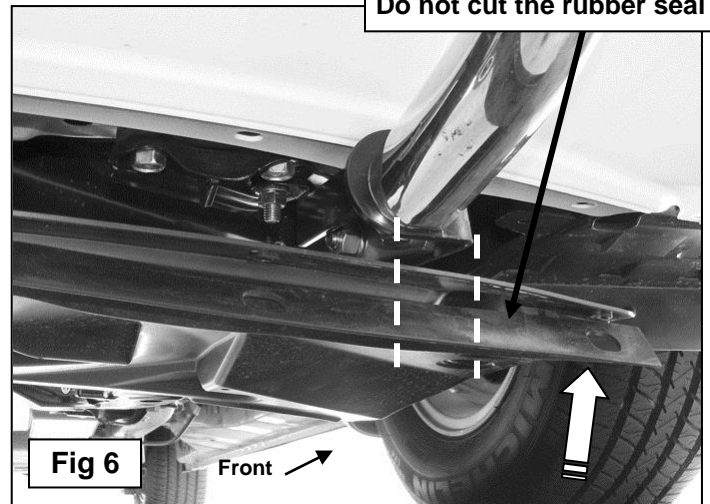
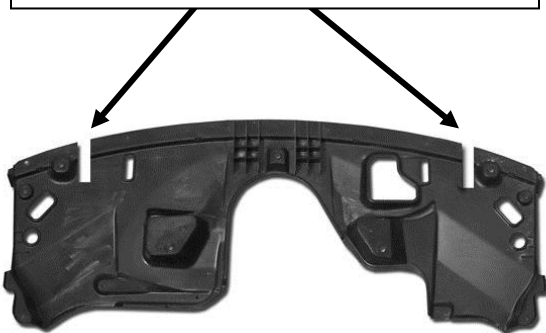

Fig 6
Fig 7
7. Remove the City Bar, (leave all mounting brackets tightened in place). Hold the plastic splash guard up into position and mark the location for cutting of the splash guard to clear the Mounting Brackets, **(Figure 6)**. **IMPORTANT:** To maintain the integrity of the plastic splash guard, cut only the plastic material that is necessary to clear the Mounting Brackets, **(Figure 7)**. **NOTE:** Do not cut the rubber seal, **(Figure 6)**. Once the plastic splash guard is cut and trimmed for fit, reinstall the splash guard using the factory hardware.